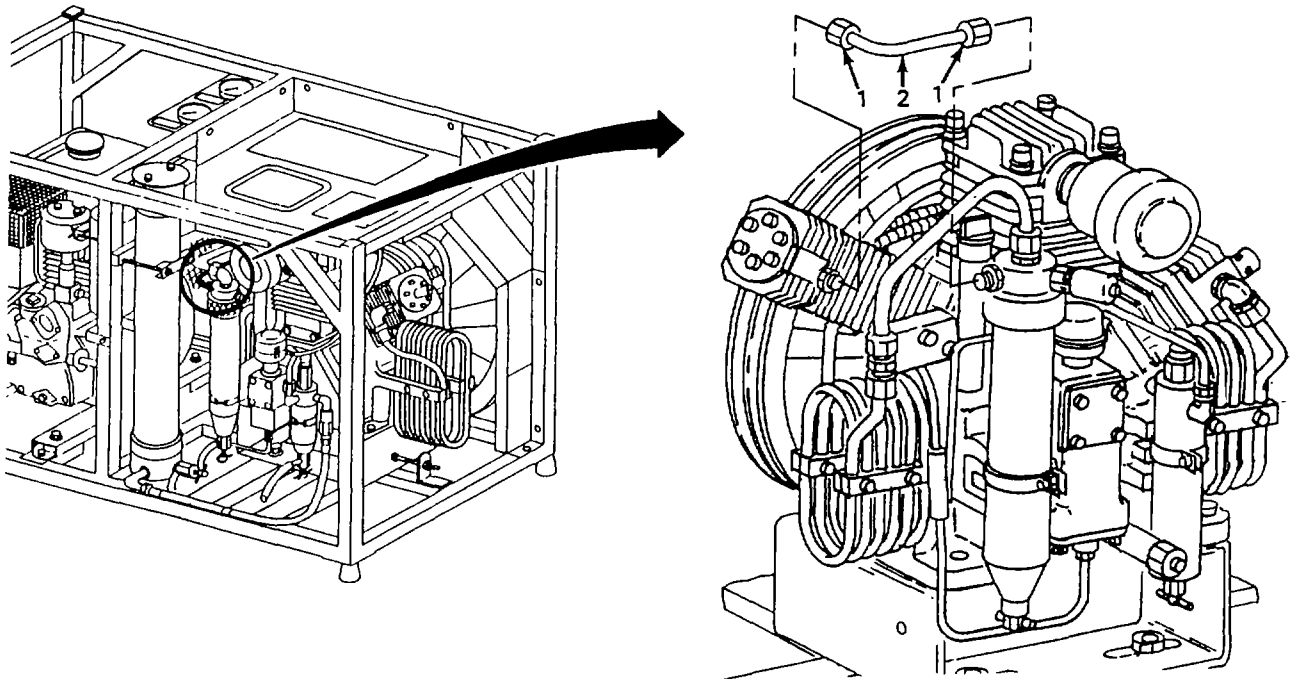

Figure 5-23. Third Stage Inlet Line, Replace.
- g. Replace Third Stage Inlet Line. (figure 5-23)